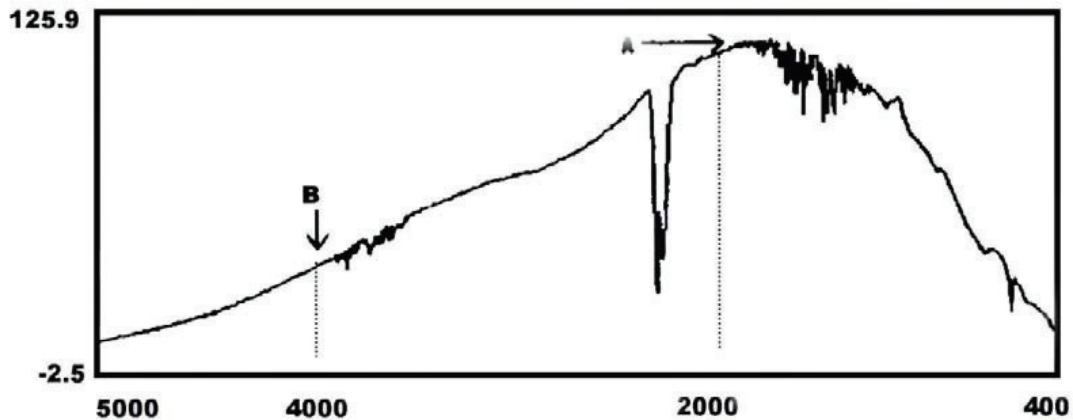

Figure 78. Correct background spectrum
You evaluate the spectral balance using a Background spectrum. A Background spectrum is provided in "Acquire Background" Figure 68. It should look like Figure 78, having the same overall shape and peaks.
1. Compare your Background spectrum to the spectrum shown in Figure 78. Note the intensity of region A ( $2000\text{ cm}^{-1}$ ) and region B ( $4000\text{ cm}^{-1}$ )